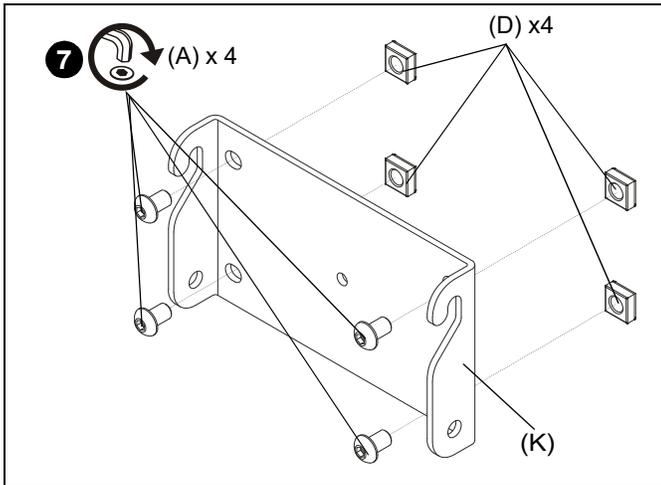

Figure 5
- Use four 5/16-18 x 1/2" button head cap screws (A) to connect four square nuts (D) to quick connect bracket (K). (See Figure 5)